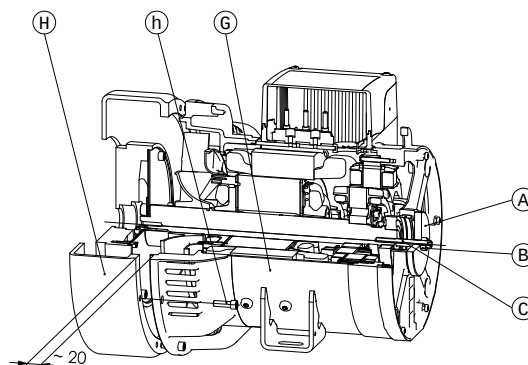

fig. 2
- 5) Bring the fixed part of the alternator **G** to a distance of approx. 20mm from the cover **H** (fig. 2)
- 6) Remove the extension rod **P**, insert at the end of the rotor a tie rod **C** (M10, of minimum 80mm length), insert a disk **A** (minimum outer \varnothing 90mm; minimum inner \varnothing 10,5mm; minimum thickness 10mm) in the tie rod. Then insert a M10 nut **B** on the tie rod (fig. 2)
- 7) Line up the holes of the engine bell housing **H** with those on the alternator **G**; screw in the nut **B** in order to complete the alternator's approach (fig. 2), dedicating extra attention to the correct alignment of the bell housing/alternator and the bearing on its housing. For this operation, insert and partially screw down the screws **h**
- 8) Complete the assembly by fastening the alternator to the engine using the fixing screws **h** (fig. 2). The recommended tightening torques are shown in the respective table